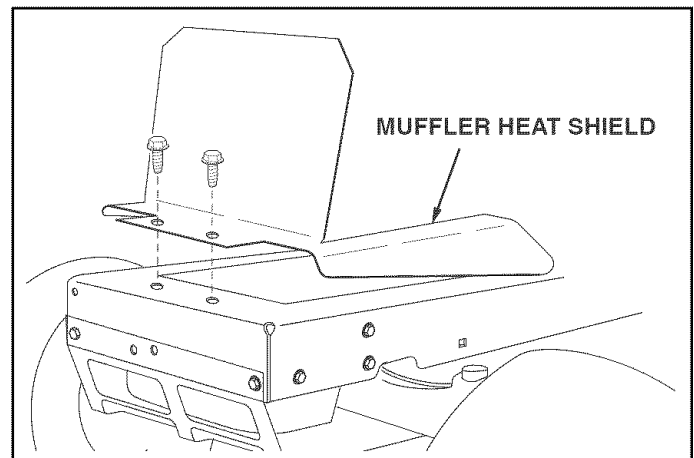

FIGURE 1
### STEP 1: (SEE FIGURE 1)
- If your tractor has a heat shield shaped like the one in figure 1, temporarily remove it.